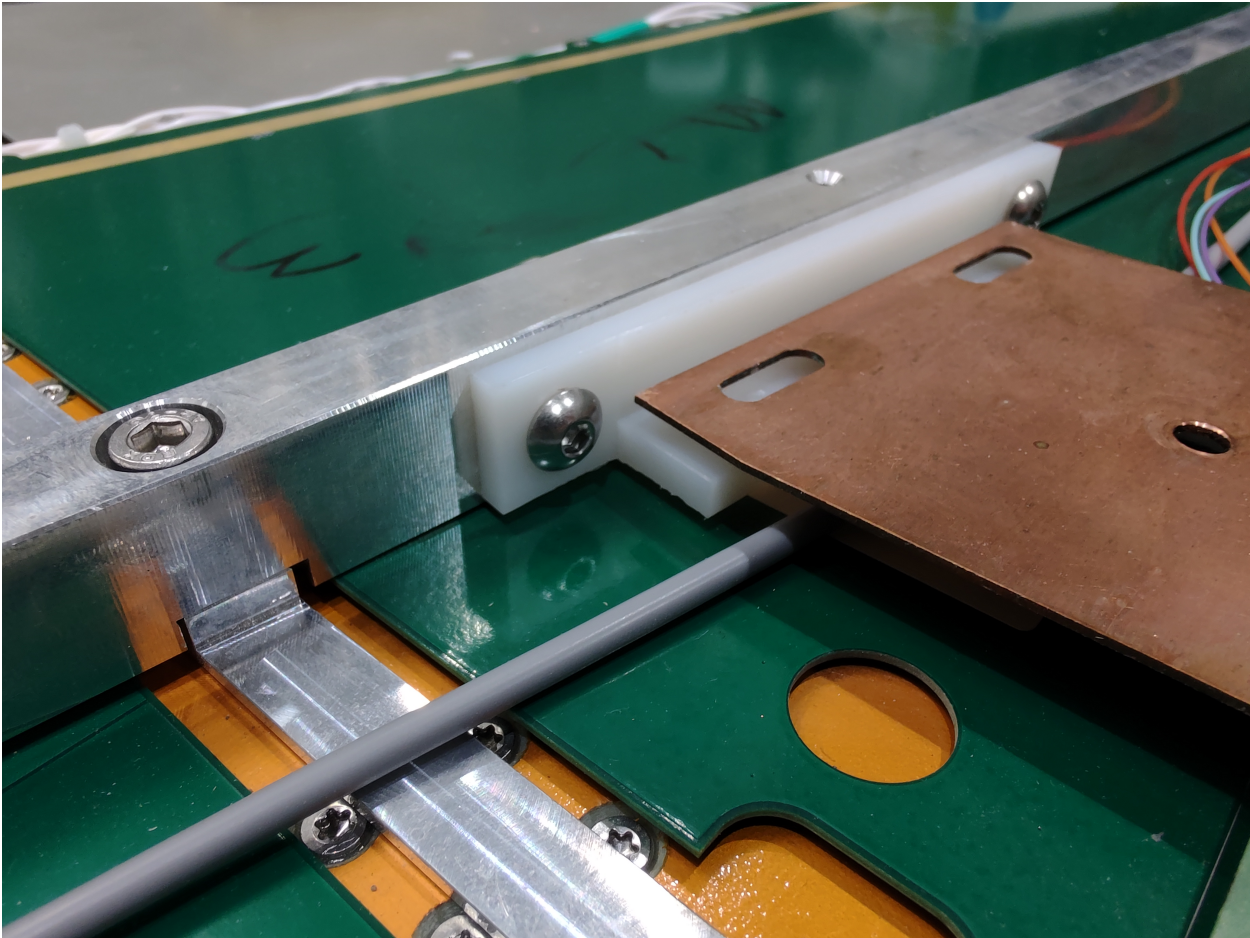

Figure 1: Brackets mounted on the longitudinal stiffeners.
- There are no issues with the mounting brackets fixed to the longitudinal bars; all of the holes are within the tolerances given by the holes on the cooling circuit mount points (see Figs. 1 and 2).
- Through holes drilled in the longitudinal stiffeners according to schematics (Fig. 1).